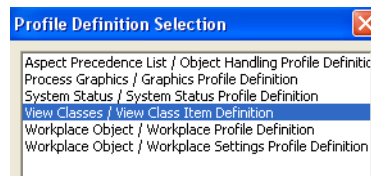

Figure 87. Profile Definition Selection
4. Select the **Main View** aspect > **Profile Definition Selection** > **View Classes/View Class Item Definition**, see Figure 87 below: